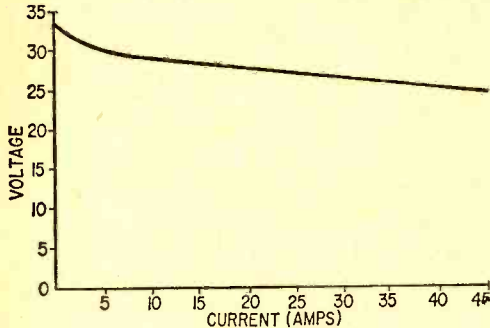

Fig. 2. Voltage-current curve of typical fuel-cell battery. A few calculations will show that battery's internal resistance is less than 0.2 ohm.
parallel for high-current output. The final package is then termed a *fuel-cell battery*. Performance ratings of a one-thousand watt unit, used in spacecraft, is shown in Fig. 2. It may be seen that as the current drain (amps) rises, the output voltage of the battery drops slightly, but remains in the 30-volt region.
**Where to Use It.** Fig. 2 suggests possible applications of the touch control. Fig. 2A is an SCR substitute for the old capacitance-operated relay (which used an RF oscillator and cost at least 5 times the price of SCR control). The load in this instance is a porch light, and point X, as shown in the photographs, is connected to a large strip of aluminum foil tacked to the doorframe opposite the doorlock. As you reach for the keyhole at night your hand will brush the foil, tripping the SCR and turning on the porch light until you enter.
Fig. 2. With aluminum or tinfoil plate attached to the inside of a showcase this circuit is quite safe, for use without transformer T1. Linecord plug polarity is still important for the operation of the circuit. Showcase glass acts as dielectric of capacitor—foil is one electrode and body capacitance (C1 in Fig. 1) completes circuit to ground. Circuit 2B (below) is more-or-less identical to 2A (above) except that the lamp is replaced by the relay coil in the circuit.